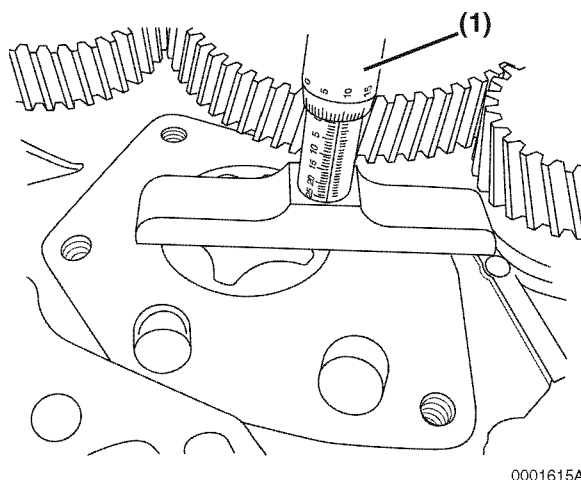

Figure 9-8
Determine the side clearance of the outer rotor across the pump cavity. Measure the depression using a depth micrometer **(Figure 9-8, (1))**.